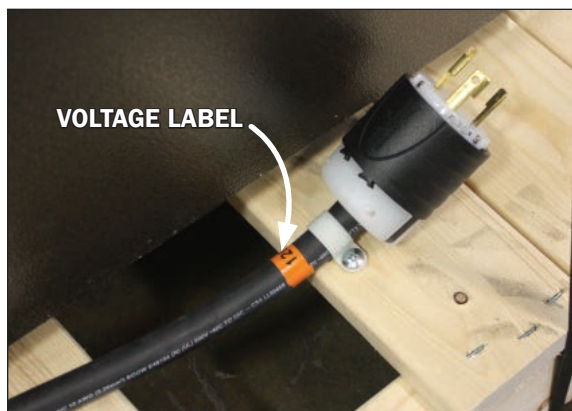

Fig. 10 Main power cord voltage label
Prior to plugging in and starting up the case always check the data tag located on the left end exterior panel or top interior of the case, as well as the voltage label found on the main power cord (Fig. 10) which can be found at the rear base panel. **Note:** **Check that the voltage of the receptacle you are going to use for power and the voltage required for the case match.**
1. After the main power cord (Fig. 10) located at the rear base panel of the case is plugged in and the power switch flipped to ON the case should begin normal operations.